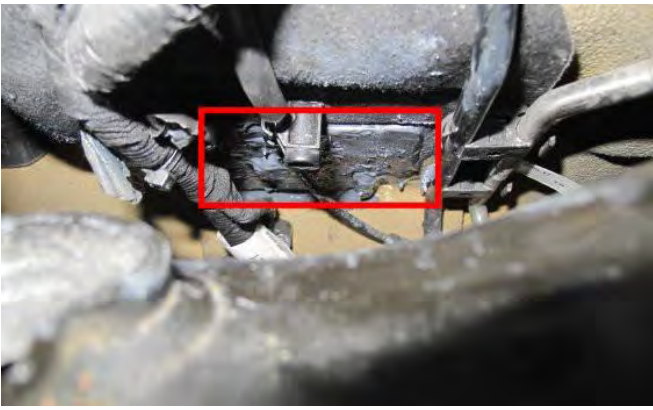

Figure 3
- Referring to Figure 3 - Should light grey underseal be found to be applied to the floor panel on the left and right hand sides, the plates have already been fitted, no further action is required (For clarity Figure 3 shows the left hand side), *please submit a Warranty claim via SAGA for a total of 10 Time units, this will ensure the VIN is removed from the applicability list*